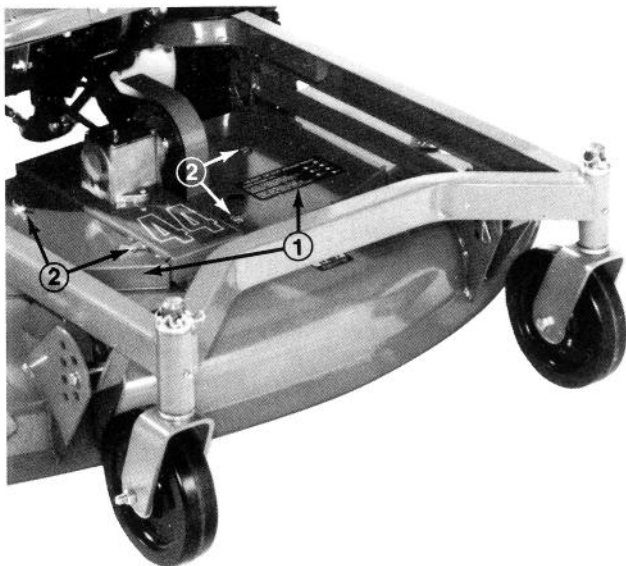

Figure 3
1. Rotate wing head studs (counterclockwise) to release center deck cover from housing, and remove cover to expose gear box pulley (Fig. 3).